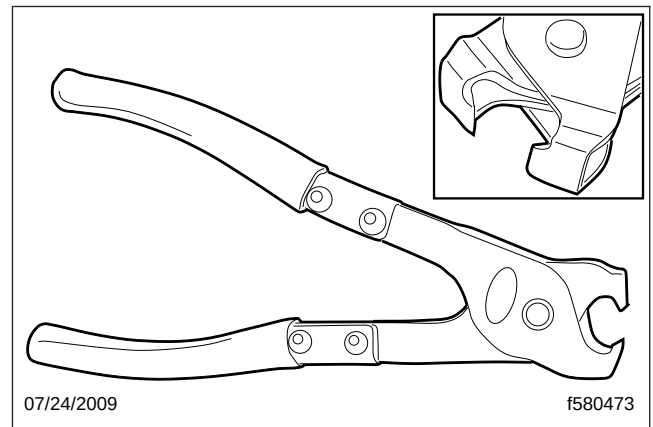

Fig. 2, Oetiker Clamp Tool
11. Ensure the Oetiker clamps are properly seated in the clamp grooves on the bellows. Using an Oetiker clamp tool (**Fig. 2**), crimp the small and large Oetiker bellows clamp ears until the ear width is 0.08 to 0.16 in (2 to 4 mm).